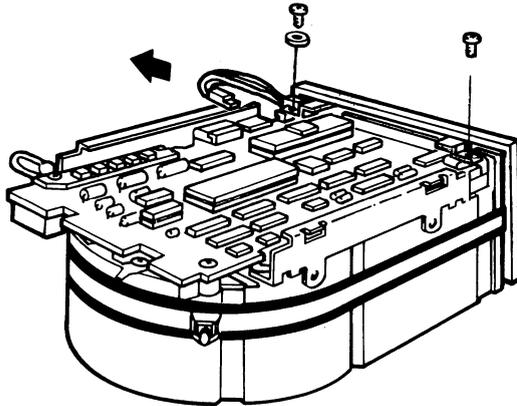

Figure 6-11 Remove the 2-Pin Connector and Screws
2. Unplug the 2-pin connector (Figure 6-11).